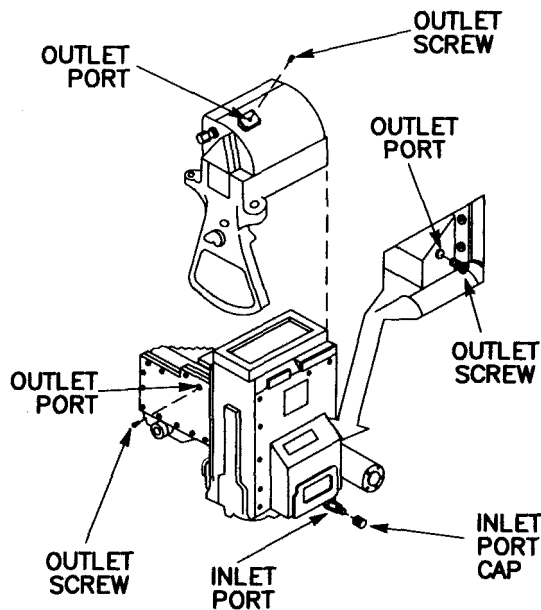

Figure 3-30 M44A Series Tank Periscope
i. Periscope, M44A Tank (figs. 3-30 through 3-32).
(1) Purging and Charging in the Installed Position (fig. 3-30).
j. Periscope, M44A2 Tank (figs. 3-30 through 3-32). Refer to para 3-10.i. for procedures.
k. Periscope, M44A3 Tank (figs. 3-30 through 3-32). Refer to para 3-10.i. for procedures.
i. Periscope, M44A4 Tank (figs. 3-30 through 3-32). Refer to para 3-10.i. for procedures.
m. Periscope, M44A1E1 Tank (figs. 3-30 through 3-32). Refer to para 3-10.i. for procedures.
n. Periscope, M44A2E1 Tank (figs. 3-30 through 3-32). Refer to para 3-10.i. for procedures.